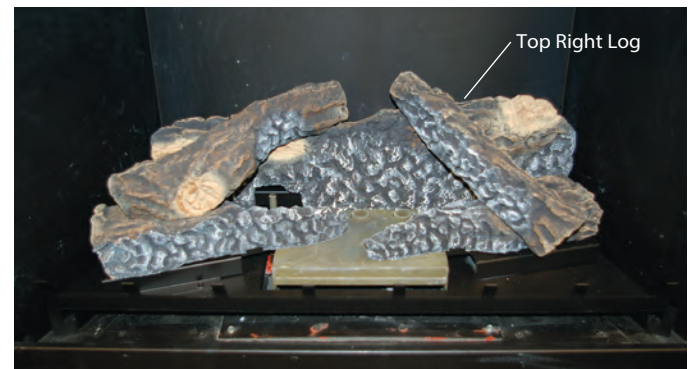

Figure 8e. Top right log placement.
Step 5. Place the top right log as shown in *figure 8e*. A notch is provided on the front right log, and a impression in the Rear bottom log.